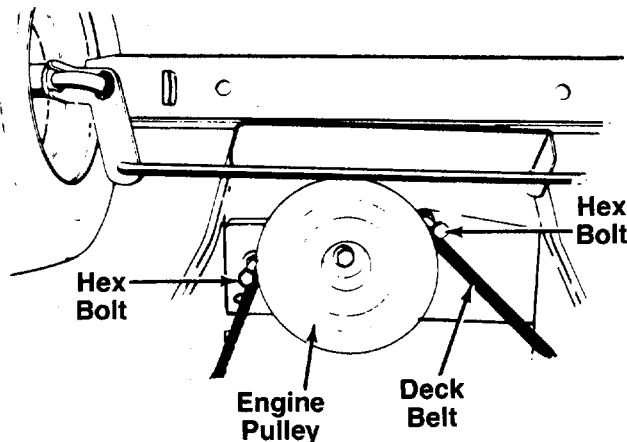

FIGURE 19.
NOTE: Figures 19, 22 and 23 are shown with the unit tipped up for clarity. It is not necessary to tip the unit to remove the belts.
2. Remove the two hex bolts (belt keepers) from the engine pulley belt guard. See figure 19.
NOTE: Make certain hex bolts are reassembled as shown in figure 19.